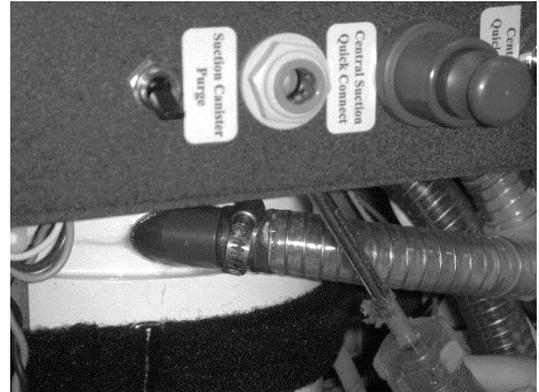

Fig. 7
Step 6 - **For bottom and side drains**, follow the black or beige tubing to where it connects behind the port labeled, "Suction Canister Purge". The connector is the same as shown in Fig. 7.